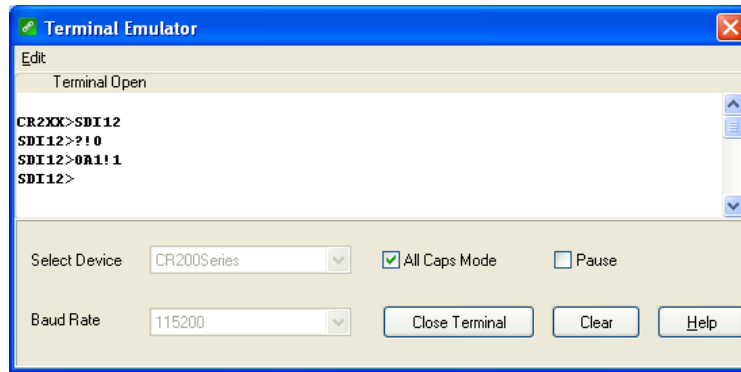

Figure D-1. CR200(X) example of using the SDI-12 transparent mode to change the SDI-12 address from 0 to 1
D.2.1 CR200(X) Series Datalogger Example
6. To change the SDI-12 address, key in **aAb! <enter>**, where *a* is the current address from the above step and *b* is the new address (see Figure D-1). The OBS501 will change its address and the datalogger will respond with the new address. To exit SDI-12 transparent mode select the **Close Terminal** button.